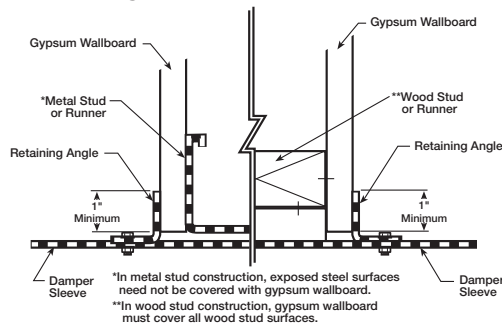

Figure 4 — Fasten Gypsum Wall Board
b. Fasten gypsum wall board 12 inches on center to all stud and runner flanges surrounding opening. Refer to Figure 4.